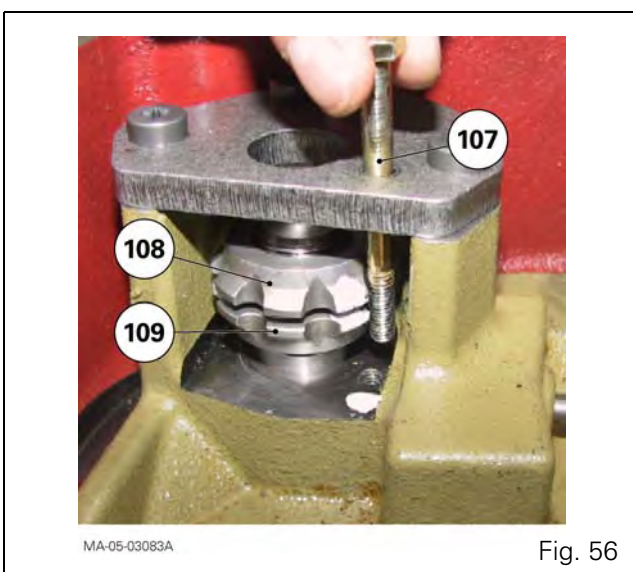

Fig. 56
142. Insert the screw (107) to lock the nuts (108) and (109), aligning the marks made during operations 135 and 141 (Fig. 56).
143. Check for correct operation. The nuts should effectively act as a stop (Fig. 56).